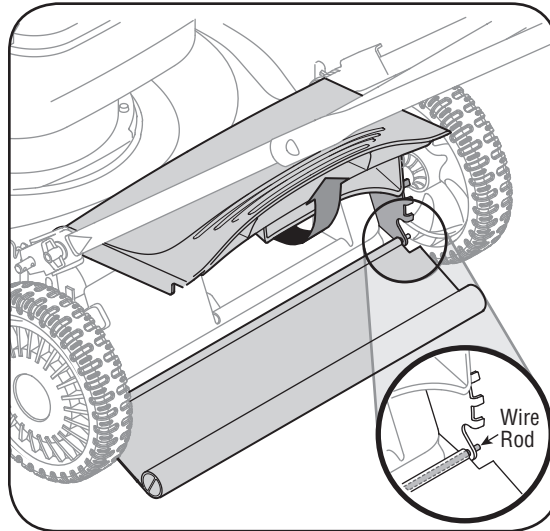

Figure 5-2
1. To remove rear flap, cut off the flat end of the wire rod which secures it to the deck. See Figure 5-2.